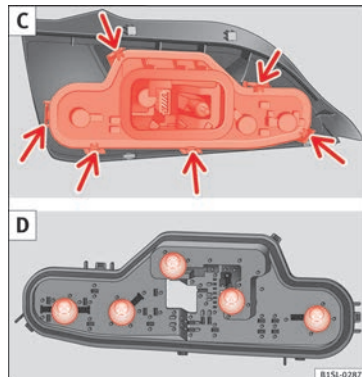

Fig. 89 Tail light unit: C: Remove the bulb holder, D: Remove the bulbs.
8. Unlock the bulb holder locking tab (arrow) » **Fig. 89 C** and remove the bulb holder from the tail light.
9. Replace the faulty bulb by a new identical bulb » **Fig. 89 D.**
10. Place the bulb holder in the tail light unit. The attachment tabs (arrow) should audibly click into place » **Fig. 89 C.**